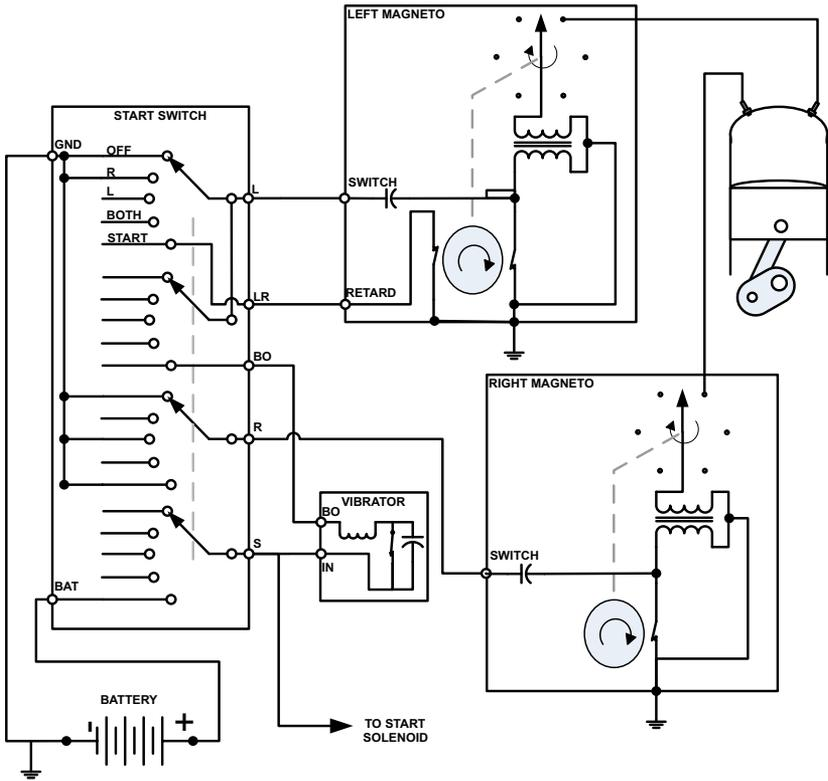

Figure 1. Magneto Circuit OFF
1. Figure 1 represents a magneto circuit with the engine not running and all switches in the OFF position. As the illustration points out, each magneto "SWITCH" input is connected to ground through the ignition switch.